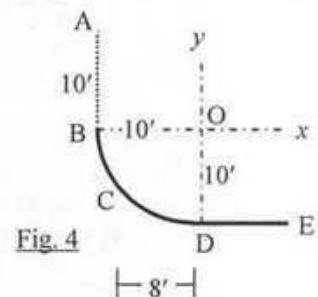

Fig. 4
4. Fig. 4 shows a body starting from rest at A, dropping freely (under gravity) to point B, and then moving along the curve  $x^2 + y^2 = 100$  at constant velocity  $v_B$  (the velocity gained at B) up to point D.
5. The body (weighing 20 lbs) traveling as shown in Fig. 4 (and as described in Question 4) reaches D and then travels along a rough surface DE to stop at E. Calculate the